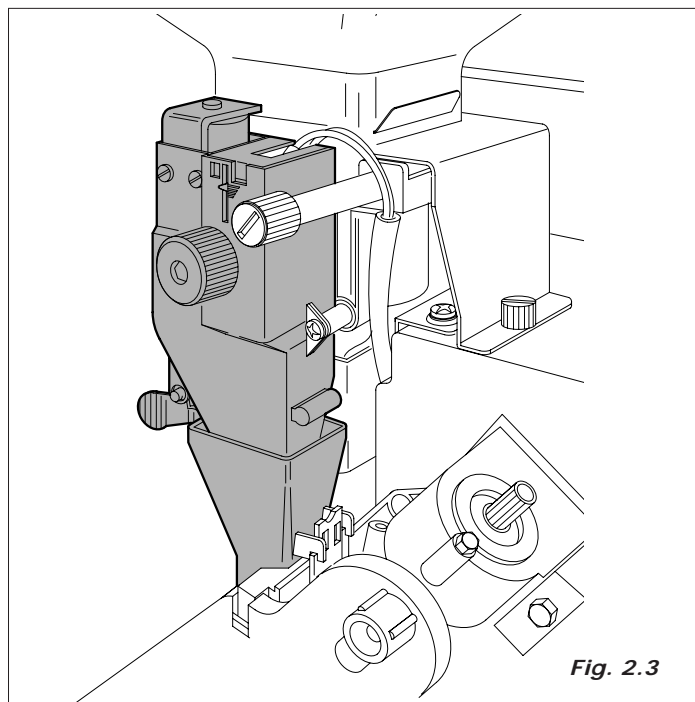

Fig. 2.3
- the grinder is activated until it reaches the dose of ground coffee set by the doser (Fig.2.3)